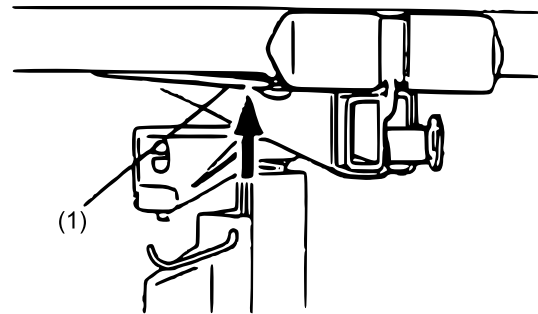

Figure 15
3. Remove the crossarms by pressing the spring tab on the bottom and sliding the crossarm out of the tapered socket (Fig. 15).